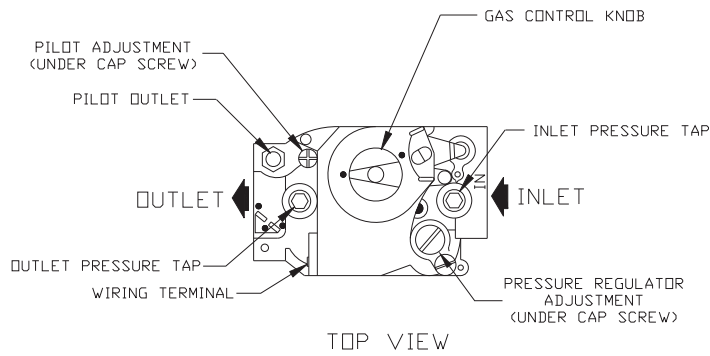

FIGURE 11.2: GAS VALVE DETAIL - HONEYWELL VR8204 AND VR8304
m) Connect a manometer to the inlet pressure tap on the gas valve (see Figure 11.2).
p) Connect a manometer to the manifold (outlet) pressure tap on the gas valve (Figure 11.2).
r) If a manifold pressure adjustment is needed, make the adjustment by turning the regulator screw (see Figure 11.2) clockwise to raise the pressure and counter-clockwise to reduce the pressure. If a manifold pressure adjustment is made, recheck the inlet pressure after making the adjustment to be certain that it is still within acceptable limits. Replace the cover screw on the regulator.